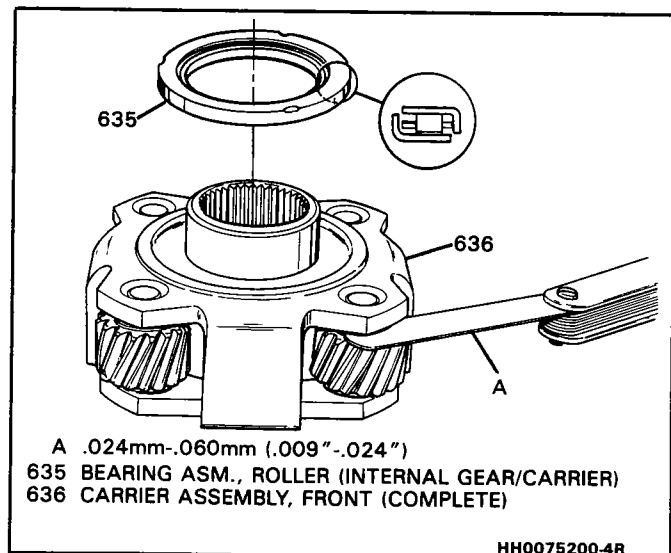
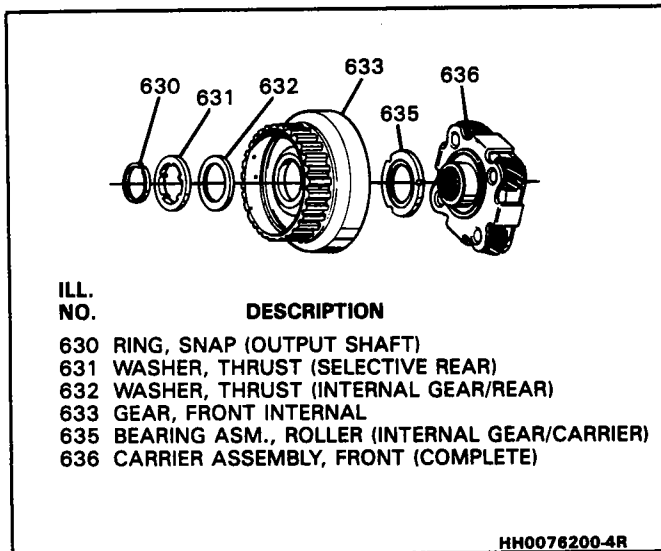

Figure 56 Front Carrier Assembly
Figure 57 Front Internal Gear Assembly
#### Inspect (Figure 56)
**✦ Assemble (Figure 56)**
1. Thrust bearing (635). Retain with petrolatum.
2. Front carrier (636).
**🔍 Inspect (Figure 57)**
- Front internal gear (633) hub for:
- Thrust washer (632) for scoring or damage
- Selective washer (631) for scoring, pitting, or damage
**✦ Assemble (Figure 57)**
1. Internal gear (633).
2. Thrust washer (632).
3. Selective washer (631).
4. Snap ring (630).
**📏 Measure (Figures 57, 58 and 59)**
1. Loosen J-29332. Push output shaft (665) down.
3. Position J-7057 against output shaft (665).